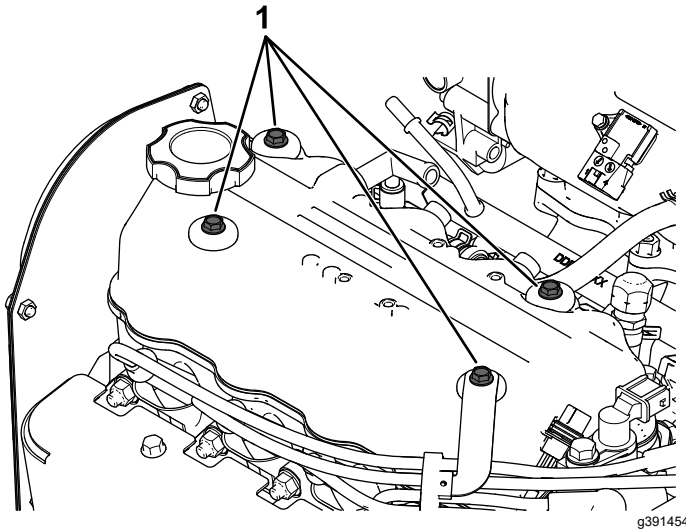

Figure 106
1. Remove the 4 bolts shown in Figure 106 from the engine.